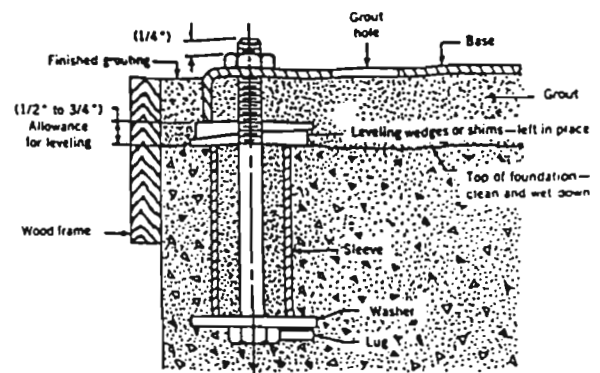

Figure 1
2.3.1. Bedplate must be grouted to a foundation with solid footing. Refer to Fig.1.